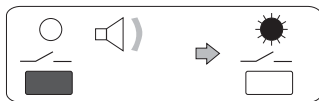

Fig. 3
- Hold down the “” **key** until there is a brief audible signal, then release it: the control is activated and the corresponding **LED** is steady on (fig.3).